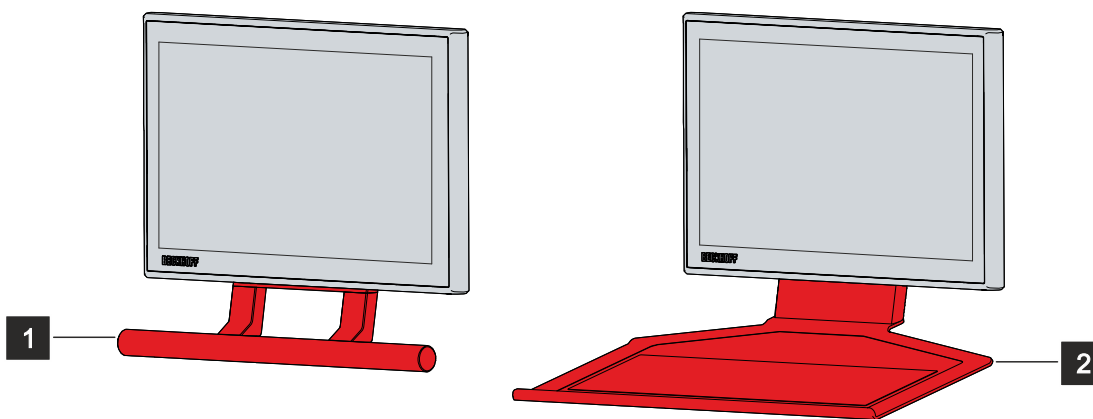

Fig. 30: Handle and toolboard
The handle (1) and the toolboard (2) are mounted on the underside of the panel PC using three M5 screws. Three M5 threaded holes are provided for this purpose (see Fig. 30).